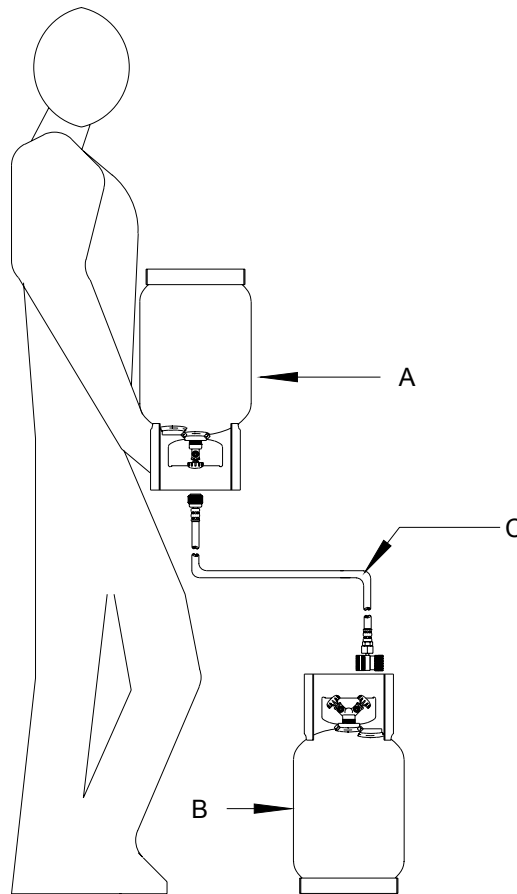

FIGURE 2 CHARGING TANK
2. Be sure Recovery Tank valves (B) are closed and tank is in vacuum on scale. Refer to FIGURE 2.
4. Disconnect and **Re-Oil** both the seals on blue hose (C). Connect the one side of the blue Hose w/ adapter (1-15080) to the Virgin Tank (A).
5. Connect the other end of the blue Hose to the Red Valve on the Recovery Tank (B).
7. Raise the Virgin Tank to a higher level than the Recovery Tank. Invert the Virgin Tank (A) and open valve.